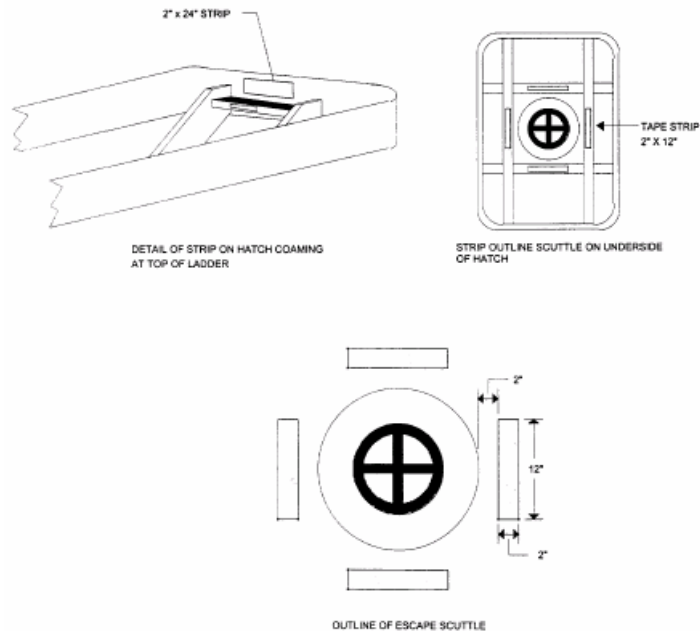

Figure 3
k. The side of a hatch coaming where the ladder attaches will be marked with a photoluminescent strip to indicate the location of the coamings, as shown in Figure 3. Scuttles shall be marked with photoluminescent strips, also depicted in Figure 3.